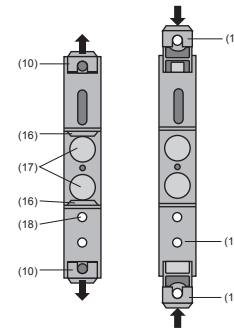

Fig. 7. Rear of device.
(10) Screw hole brackets
(16) Top-hat rail clip
(17) Rubber buffers
(18) Latch for pulling the screw hole brackets out
(19) Latch for pushing the screw hole brackets in
To return the brackets to their original positions, the latch (19) in the base of the device has to be depressed before applying pressure to the securing brackets (10) (see Fig. 7, right).